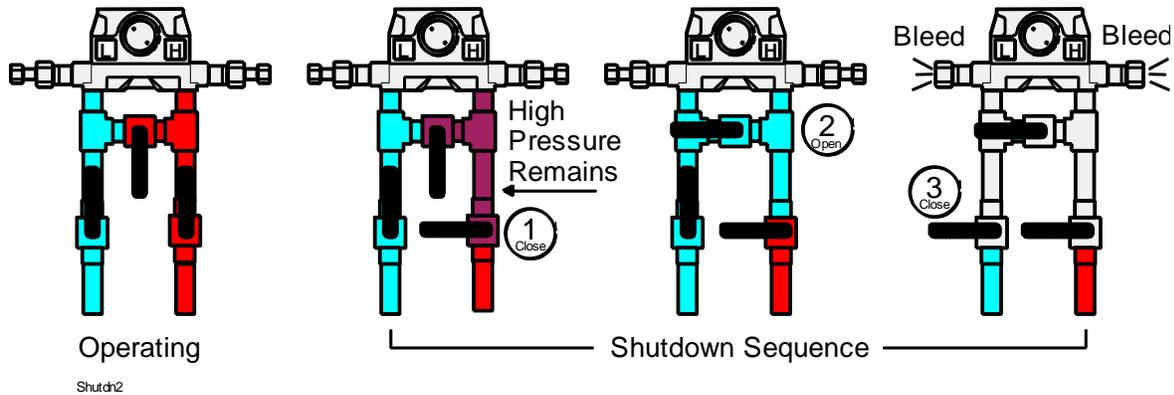

Figure 7-3. DVS Depressurization
1. Remove the sensor from service, taking care to maintain pressure in the sensor by closing the valves and then bleeding off pressure as shown in *Figure 7-3*.